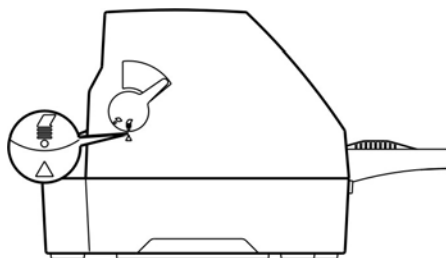

Figure 3-7 Setting the paper select lever
2. Set paper select lever toward the front of printer as shown in Figure 3-7.